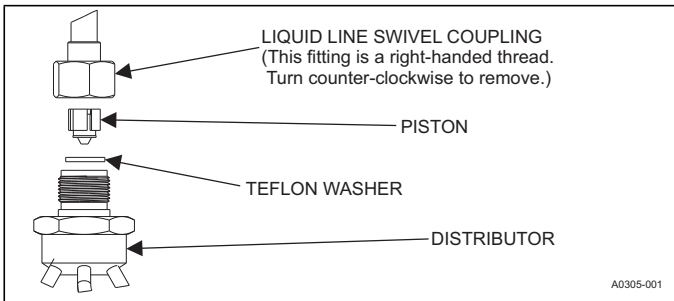

FIGURE 6: Piston Installation
- Verify that the Teflon washer is still in place in the distributor opening. See Figure 6.